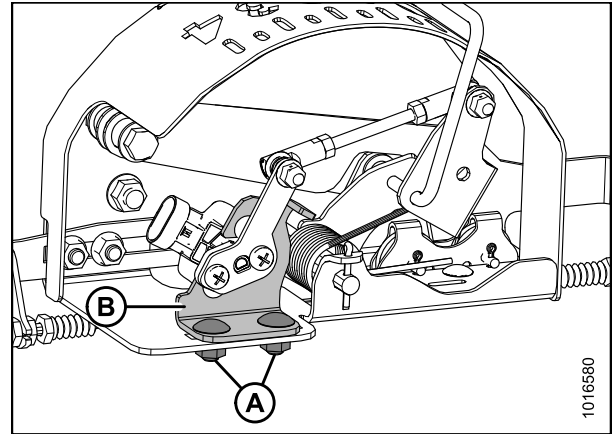

Figure 7.12: AHHC Sensor Assembly
4. If unable to get the voltage within the required range, loosen mounting bolts (A) and shift sensor assembly (B) inboard (right as shown in Figure 7.12: *AHHC Sensor Assembly*, page 149).